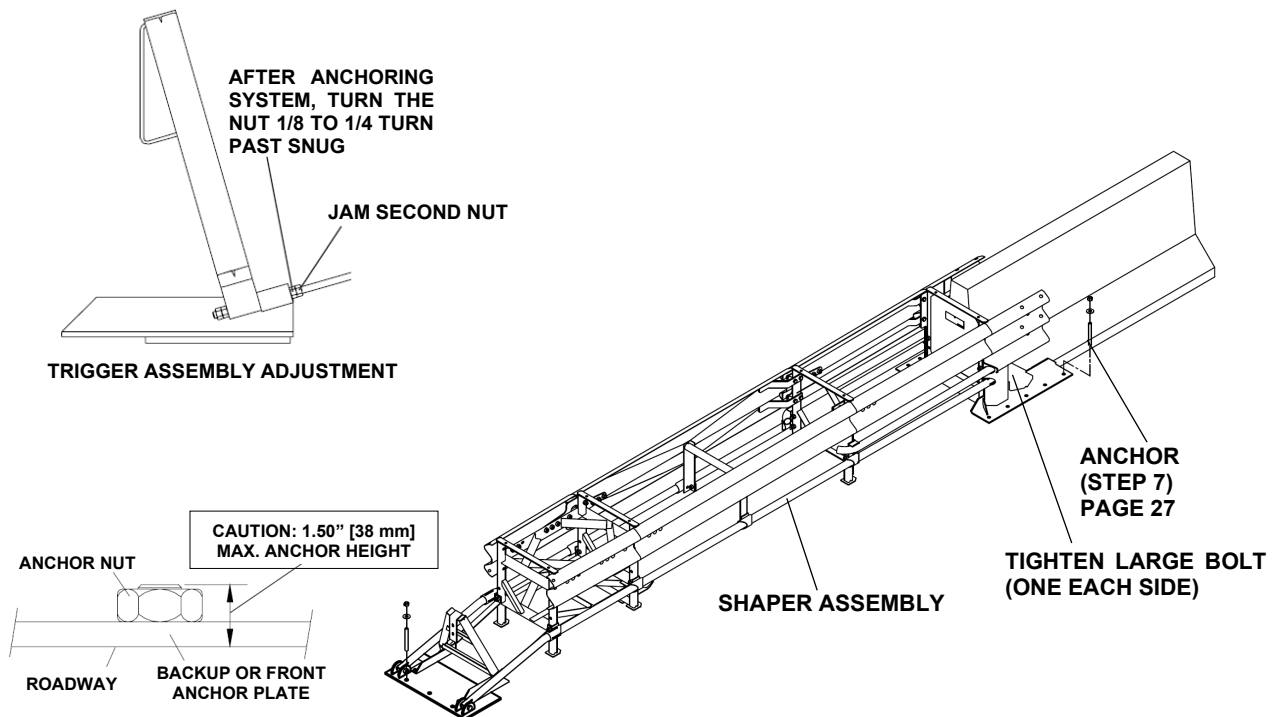

Figure 30
For assemblies shielding concrete wall, safety shape barrier or pillar, the steel backup should be nested around the roadside feature (Figure 30).
Drill 7/8" [22 mm] diameter x 5 3/4" [145 mm], deep holes into the concrete pad or roadway (Figure 30). Use Valtir approved adhesive kits to assemble 3/4" diameter x 7" long studs using instructions included with kit. After adhesive is hardened, use 3/4" flat washers and nuts provided with kit to anchor system to foundation.
Tension Threaded Rod by tightening the upper nut approximately 1/8 to 1/4 turn past snug. Attach second nut on upper side and jam (typical both sides) (Figure 30). See procedure outlined in the drawing package.
- 3/4" x 7" Anchor Torque fasteners to manufacturer's recommended values. Anchors may protrude above threads (Figure 30).
Anchors	Torque: p. 15 May Protrude Above Nuts (Figure 30 on p. 34)